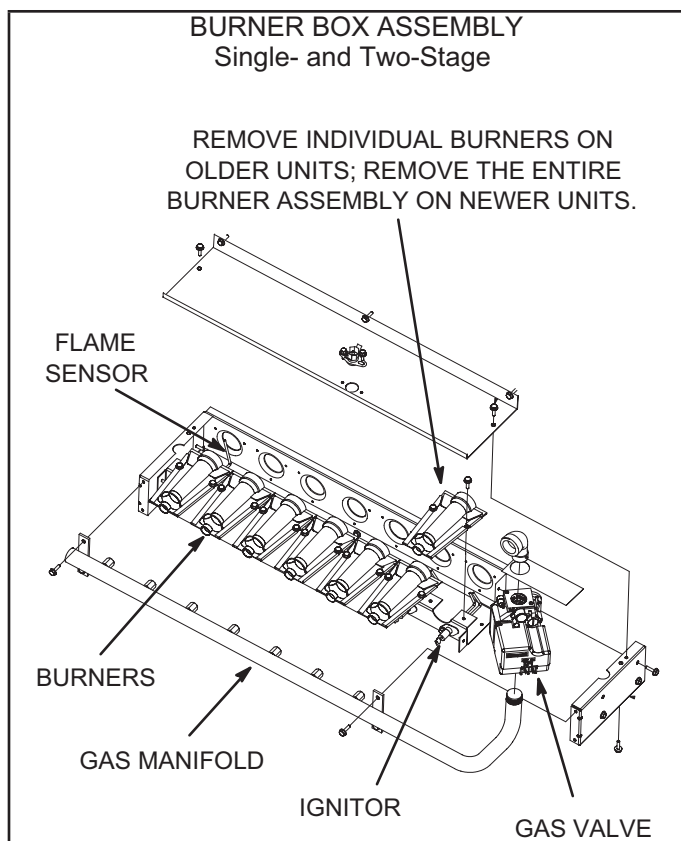
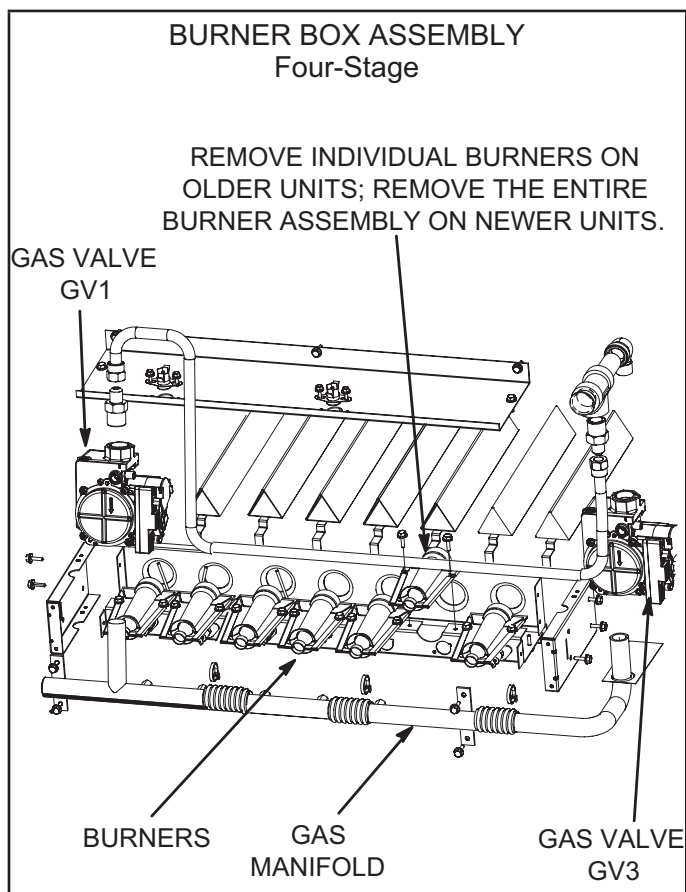

FIGURE 33
FIGURE 34
- 4 - Remove screws securing burners to burner support and lift the individual burners or the entire burner assembly from the orifices. See FIGURE 33 or FIGURE 34. Clean as necessary.